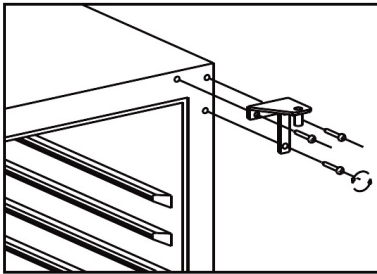

fig. 8.3
- Dismount the right top hinge and save it for later use. See fig. 8.3